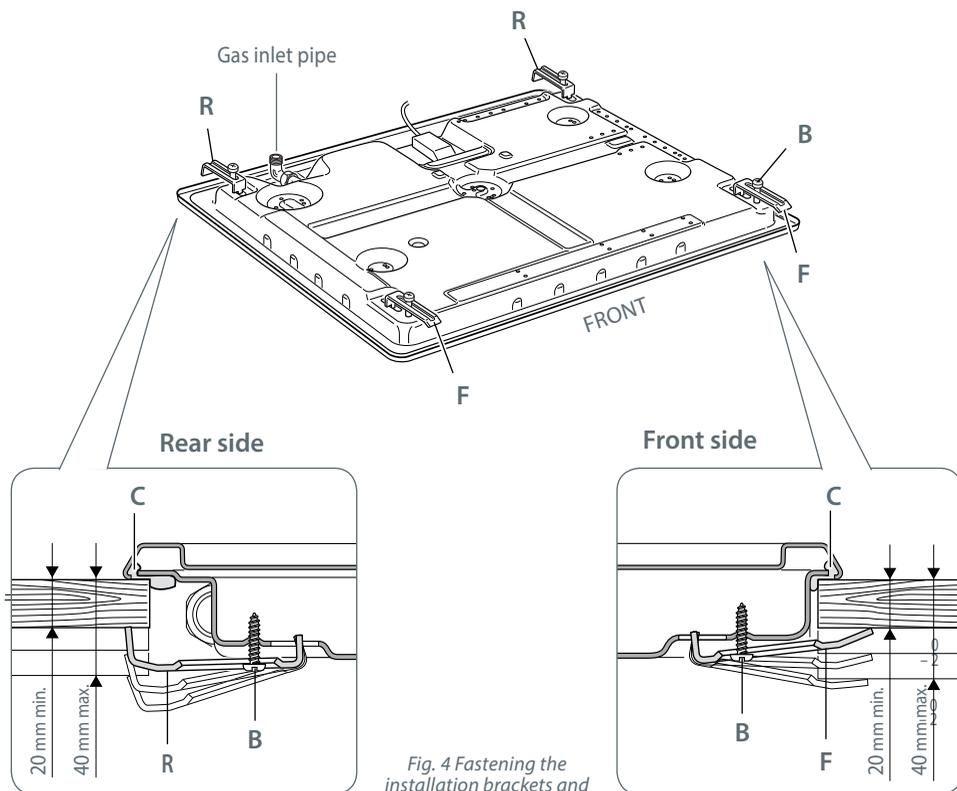

Fig. 4 Fastening the installation brackets and the cooktop
Fastening the installation brackets (Fig. 4)
- Turn the cooktop upside down, place it on a soft surface and fasten the brackets "F and R" to the appropriate socket holes, without tightening the screws "B" for the moment (see Fig. 4).
Fastening the cooktop (Fig. 4)